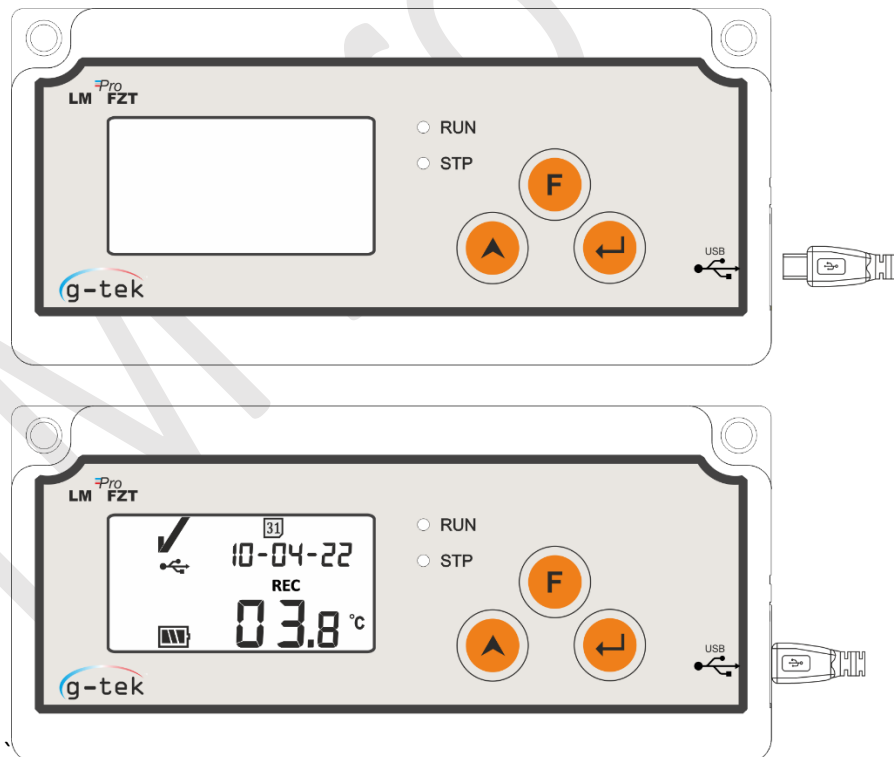

Figure 18 Micro USB Attachment
- Connect the LM^{Pro} FZT data logger to Windows PC via the USB Type-A port, as shown in figure 18.